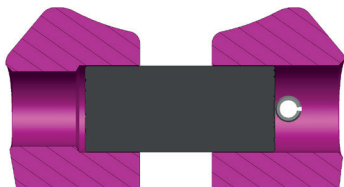

Fig. 3: G bolt assembly through locking pin and staged drill hole (left). One G bolt of the next smaller size will fall out.
- The G-bolt must be assembled through the dowel pin and staged drill holes as inextricable in the component (Fig. 3).